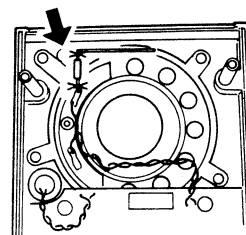

Fig. 2-2
3. As shown in the Fig. 2-2, desolder the jumper wire located on the speaker of KPG-1.